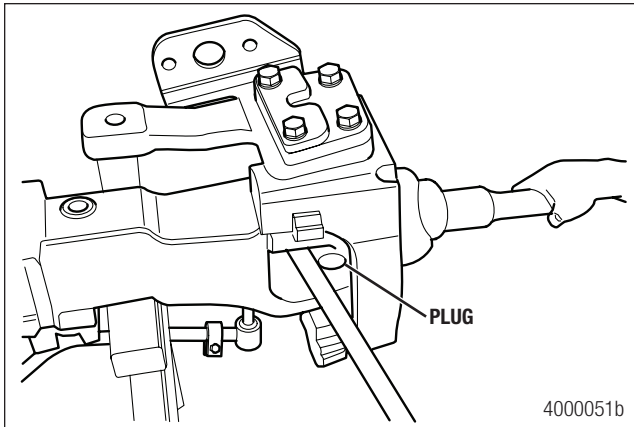

Figure 8.15
5. Install the axle shaft and universal joint assembly through the steering knuckle. Figure 8.15.